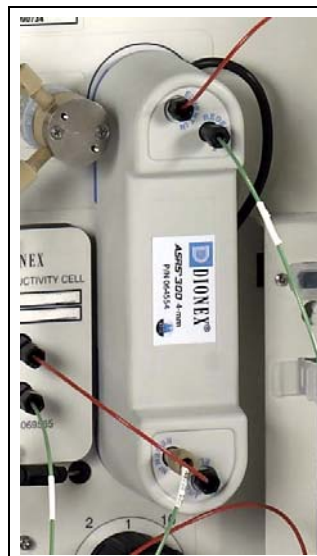

Figure 30. Suppressor Installed (SRS Shown)
6. Press the suppressor onto the tabs and then slide it down to lock it in place. Pull slightly on the center of the suppressor to verify that it is securely fastened. Figure 30 shows an SRS[®] suppressor installed on the component panel.